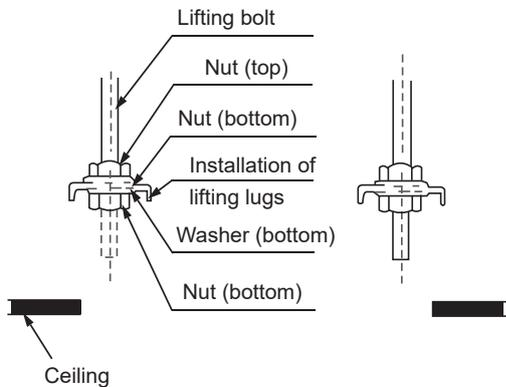

Figure 8. Steel framework
- When mounting the lifting lugs of the indoor unit on the lifting bolts, slot the nut washers of the lifting bolts in the oblong holes of the lifting lugs. The upper and lower nuts and the washers are shown in Figure 8.